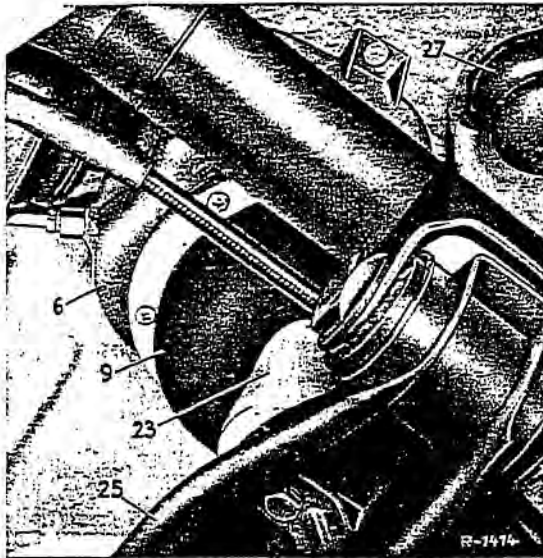

Fig. 32-14/7
4. Disconnect the lines (two on the left, one on the right) from the air chamber (Fig. 32-14/7).
5. Detach the bellows from the spring piston by means of a hammer handle (Fig. 32-14/8).